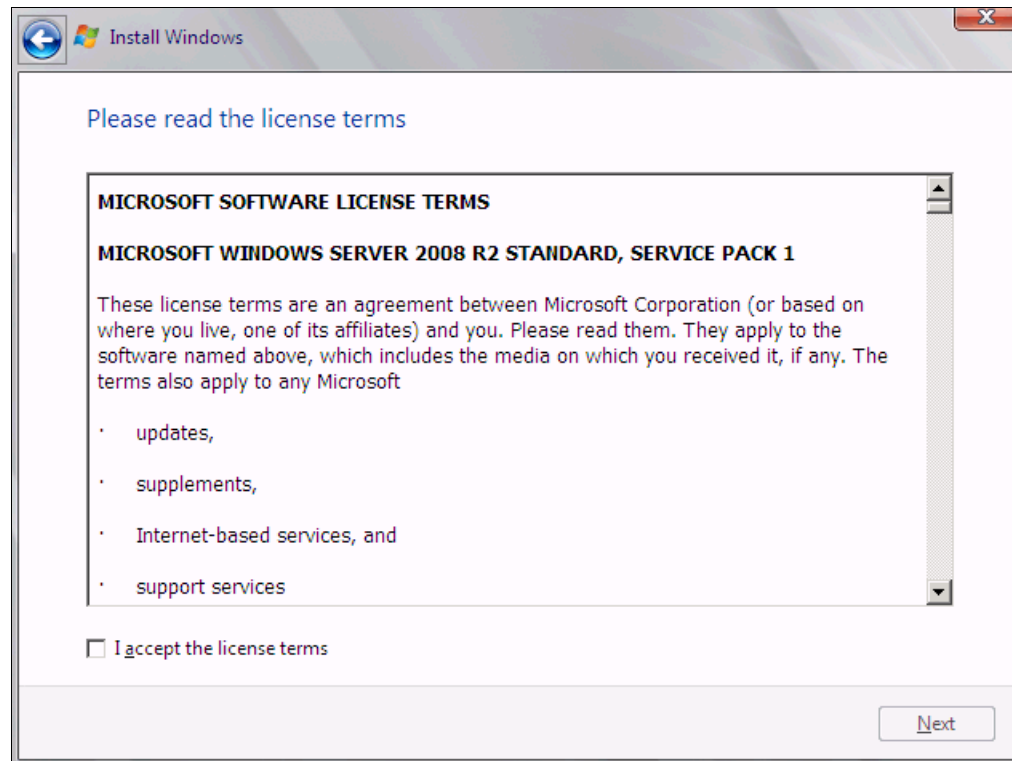

Figure 9-194 License agreement window
10. Read the license agreement (Figure 9-194), click **I accept the license terms**, and click **Next**.